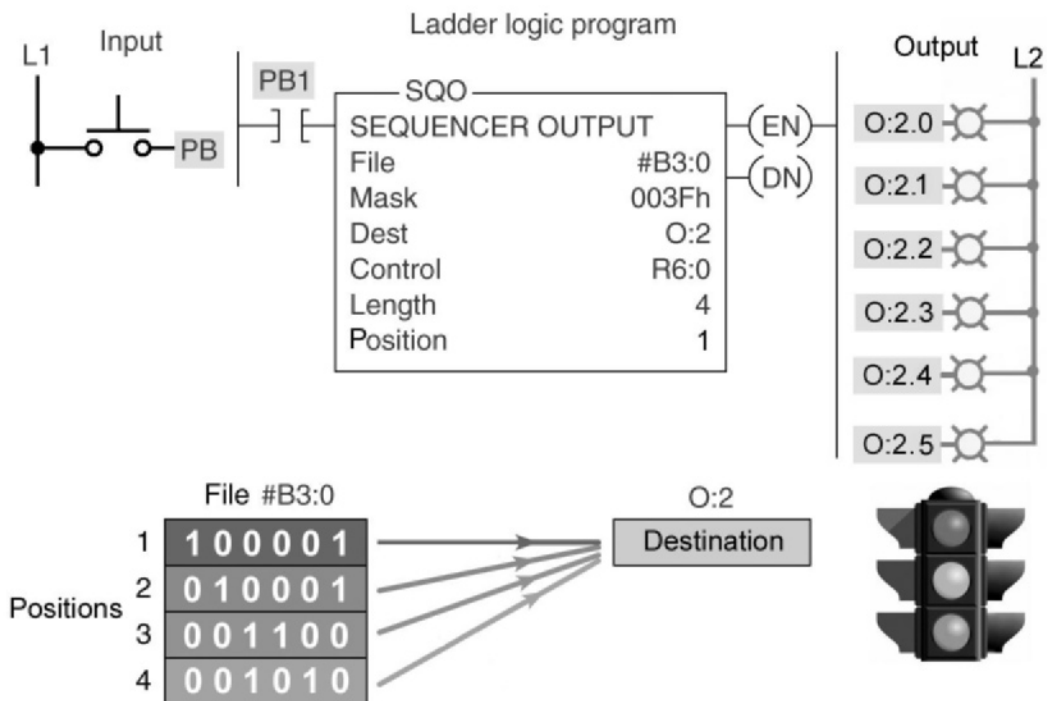

Figure 12-20 Event-driven sequencer for assignment 1.
1) The event-driven traffic light sequencer program of Figure 12-20 is described in the text. Prepare an I/O connection diagram and ladder logic program that will simulate its operation. Use addresses that apply to your PLC installation. Enter the program into the PLC, and verify its operation by using the pushbutton to step manually the sequencer steps.